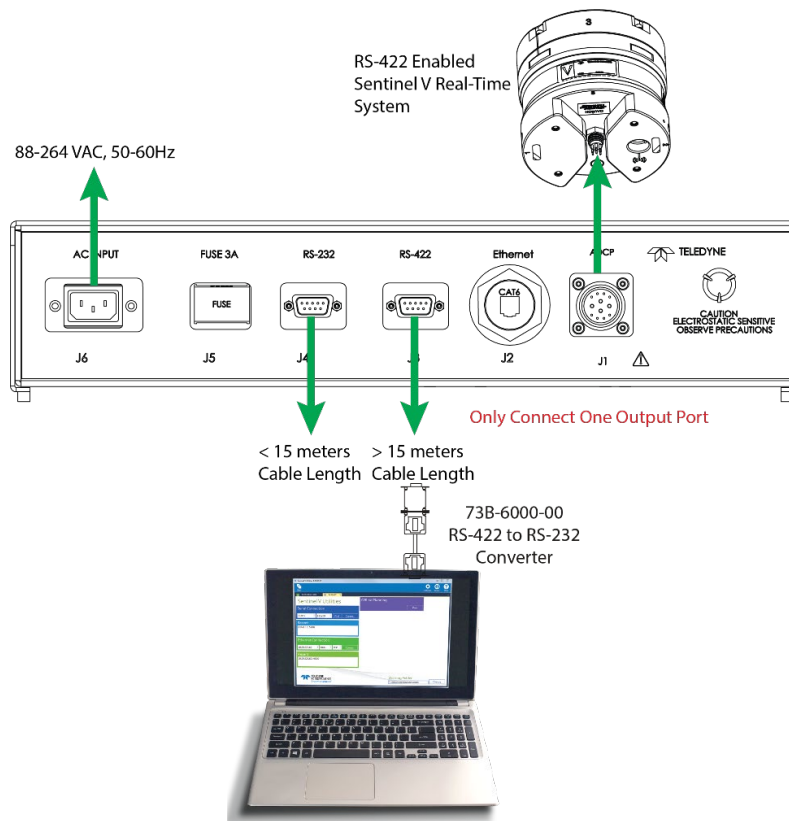

Figure 8. SVRT Deckbox Serial Connection
1. Click the link next to **Firmware update**. This link will open the default web browser on the laptop and open the Sentinel-V Utilities page (see Figure 8, page 38).